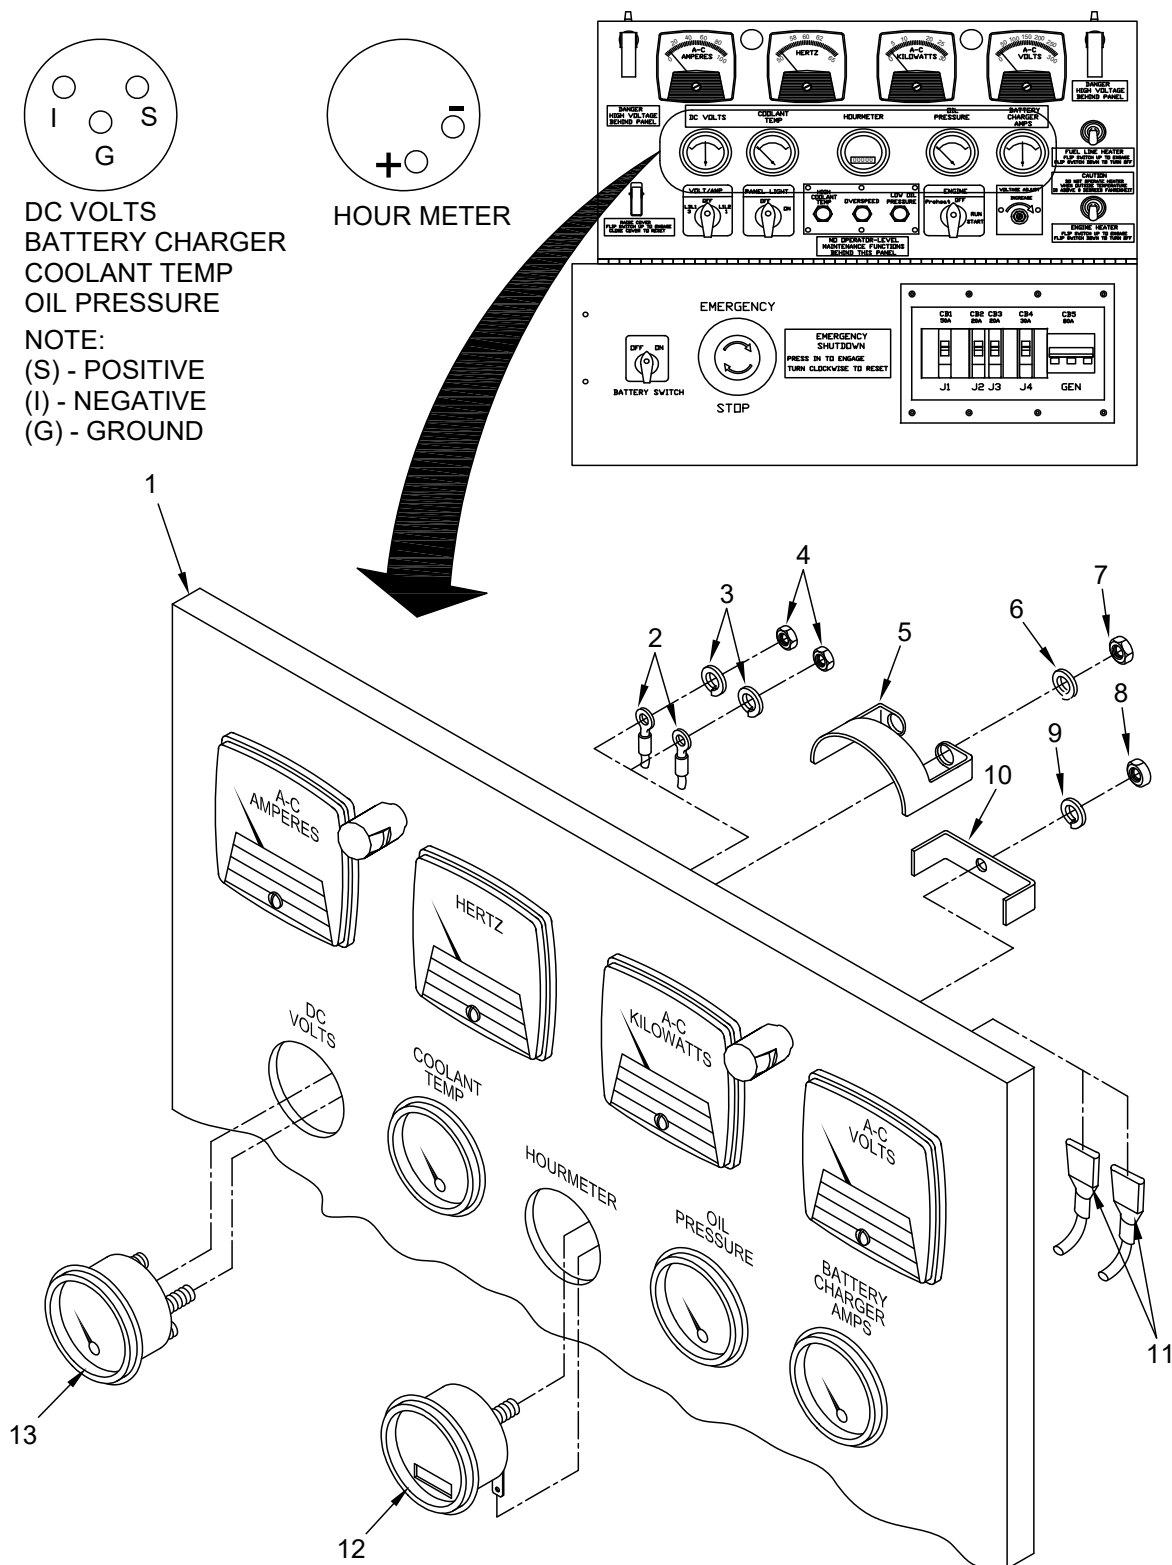

Figure 2. Meter/Gauge Removal/Replacement.
4. Remove and retain nuts(s) (Figure 2, Item 4) and lock washer(s) (Figure 2, Item 3) that secure terminals (Figure 2, Item 2) to meter/gauge (Figure 1, Item 13).
5. Mark and disconnect terminals (Figure 2, Item 2) from meter/gauge (Figure 2, Item 13).
6. Remove and retain two nuts (Figure 2, Item 7), lock washers (Figure 2, Item 6) and bracket (Figure 2, Item 5) that secure meter/gauge (Figure 2, Item 13) to control panel (Figure 2, Item 1).
7. Remove meter/gauge (Figure 2, Item 13) from control panel (Figure 2, Item 1).
1. Install meter/gauge (Figure 2, Item 13) through control panel (Figure 2, Item 1).
2. Secure meter/gauge (Figure 2, Item 13) to control panel (Figure 2, Item 1) with bracket (Figure 2, Item 5) two nuts (Figure 2, Item 7) and lock washers (Figure 2, Item 6).
3. Connect terminals (Figure 2, Item 2) to meter/gauge (Figure 2, Item 13).
4. Secure terminals (Figure 2, Item 2) to meter/gauge (Figure 2, Item 13) using nuts(s) (Figure 2, Item 4) and lock washer(s) (Figure 2, Item 3).
4. Mark and disconnect two terminals (Figure 2, Item 11) from hour meter (Figure 2, Item 12).
5. Remove and retain nut (Figure 2, Item 8), lock washer (Figure 2, Item 9) and bracket (Figure 2, Item 10) that secures hour meter (Figure 2 Item 12) to control panel (Figure 2, Item 1).
6. Remove hour meter (Figure 2, Item 12) from control panel (Figure 2, Item 1).
1. Install hour meter (Figure 2, Item 12) through control panel (Figure 2, Item 1).
2. Secure hour meter (Figure 2, Item 12) to control panel (Figure 2, Item 1) with bracket (Figure 2, Item 10) nut (Figure 2, Item 8) and lock washer (Figure 2, Item 9).
3. Connect two terminals (Figure 2, Item 11) to hour meter (Figure 2, Item 12).